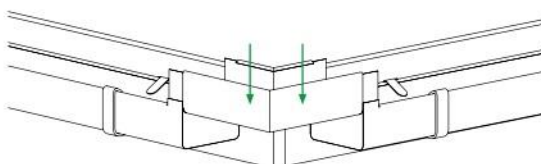

Figure 21
- 5.5. Slide the corner into the gutters (**Fig. 21**).